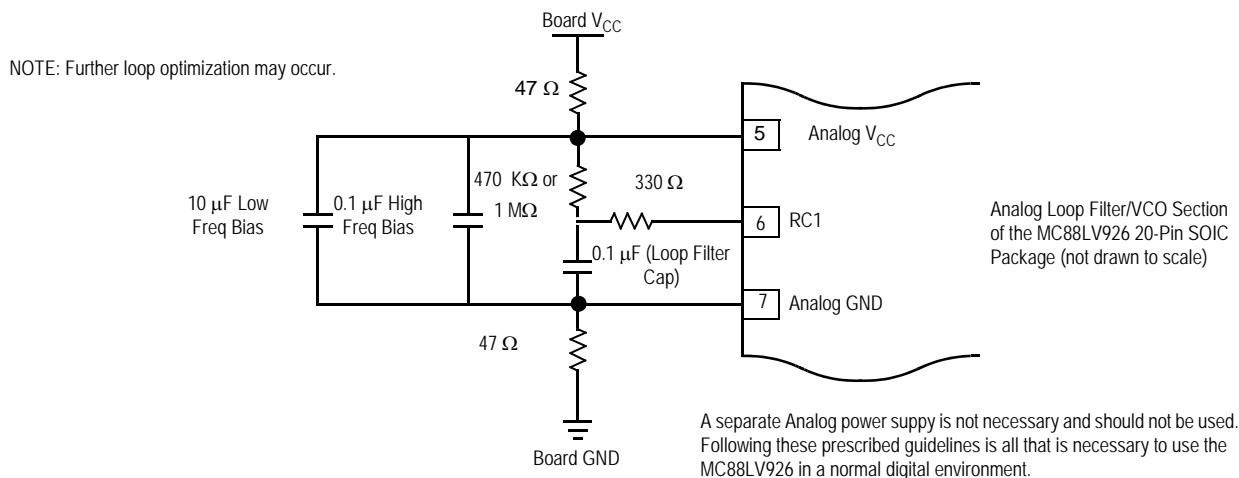

Figure 7. Recommended Loop Filter and Analog Isolation Scheme for the MC88LV926
1. **Figure 7** shows a loop filter and analog isolation scheme which will be effective in most applications. The following guidelines should be followed to ensure stable and jitter-free operation:
2. In addition to the bypass capacitors used in the analog filter of **Figure 7**, there should be a $0.1\ \mu\text{F}$ bypass capacitor between each of the other (digital) four V_{CC} pins and the board ground plane. This will reduce output switching noise caused by the 88LV926 outputs, in addition to reducing potential for noise in the 'analog' section of the chip. These bypass capacitors should also be tied as close to the 88LV926 package as possible.